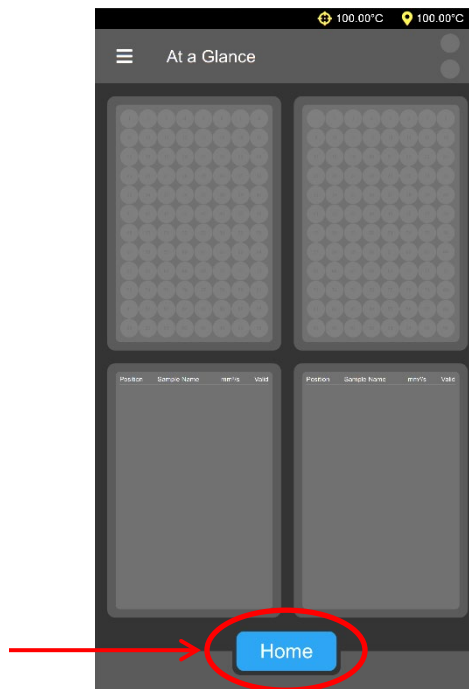

Figure 13: Home Instrument
9. Home the motors by selecting **Home** from the bottom of the screen. See Figure 13.